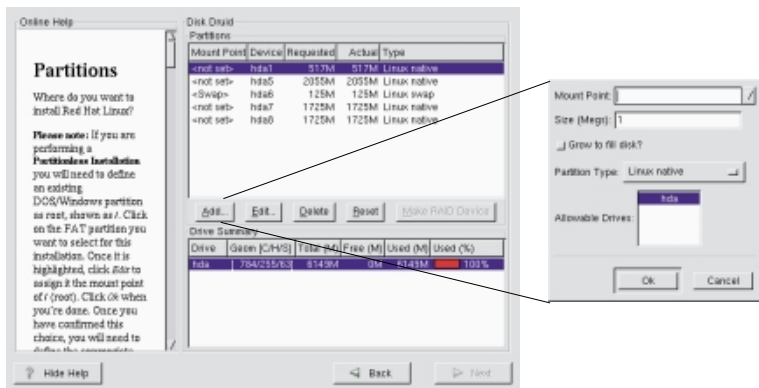

Figure 3 Disk Druid Partitions Window and Popup Window
- To configure a workstation drive partition (three are required), begin by clicking **Add** in the **Disk Druid Partitions** window, which brings up a popup window (see Figure 3).